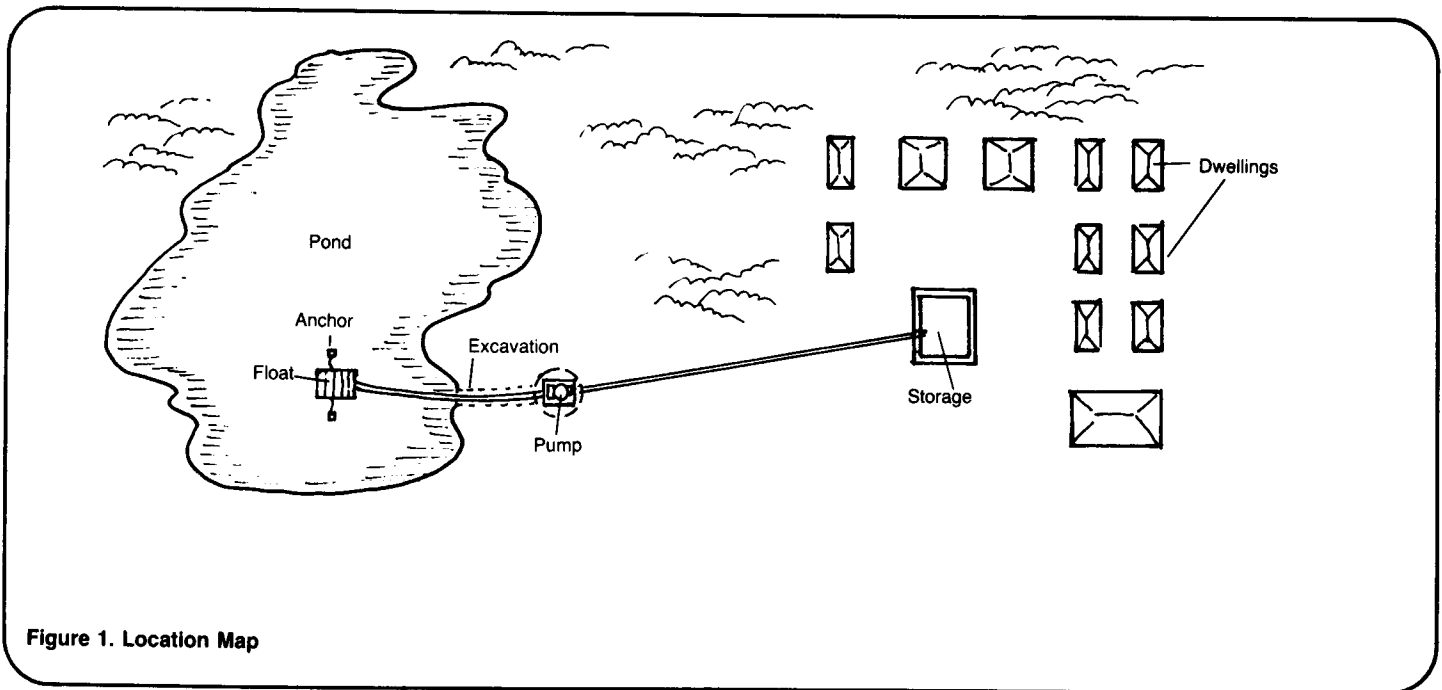

Figure 1. Location Map
1. A map of the body of water marked with the location of the intake, distances and construction areas as shown in Figure 1.